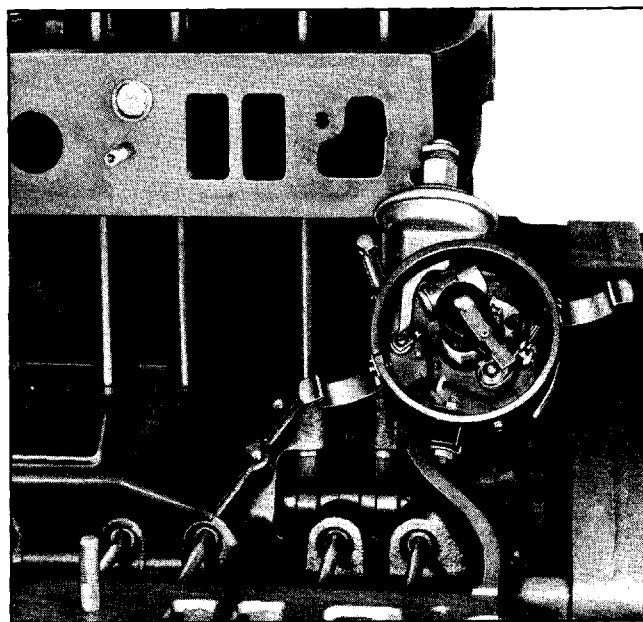

Fig. 6-76 Relationship of Distributor and Rotor for No. 1 Firing Position
c. Install distributor (without cap and wires) so that vacuum diaphragm faces the right side of the engine and rotor arm points toward contact in cap for number one cylinder. It will also be necessary to turn the oil pump drive shaft so it will index with distributor shaft. Distributor and rotor will be positioned as shown in Fig. 6-76 when properly installed with number one piston in firing position.